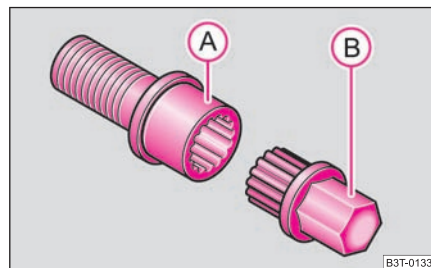

Fig. 206 Safety wheel bolt
- Insert the adapter (B) with its toothed side fully into the inner tooting of the safety wheel bolt (A) right down in such a way that only the outer hexagon is jutting out ⇒ fig. 206.
- Insert the wheel wrench fully onto the adapter (B).